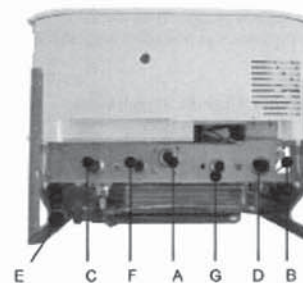

Figure 10.1
The Riva boiler is supplied with a 3/4" stainless steel gas pipe (A in figure 10.1), 2 - 3/4" copper pipe (C,D in figure 10.1), 2 - 1/2" (F,G in figure 10.1), located in a plastic bag in the boiler package.
- Remove the protective caps off boiler connections (Figure 10.1).
- Attach the supplied components to the boiler connections (see Figures 10.1). Be sure to use the proper gaskets for the pipe connections.